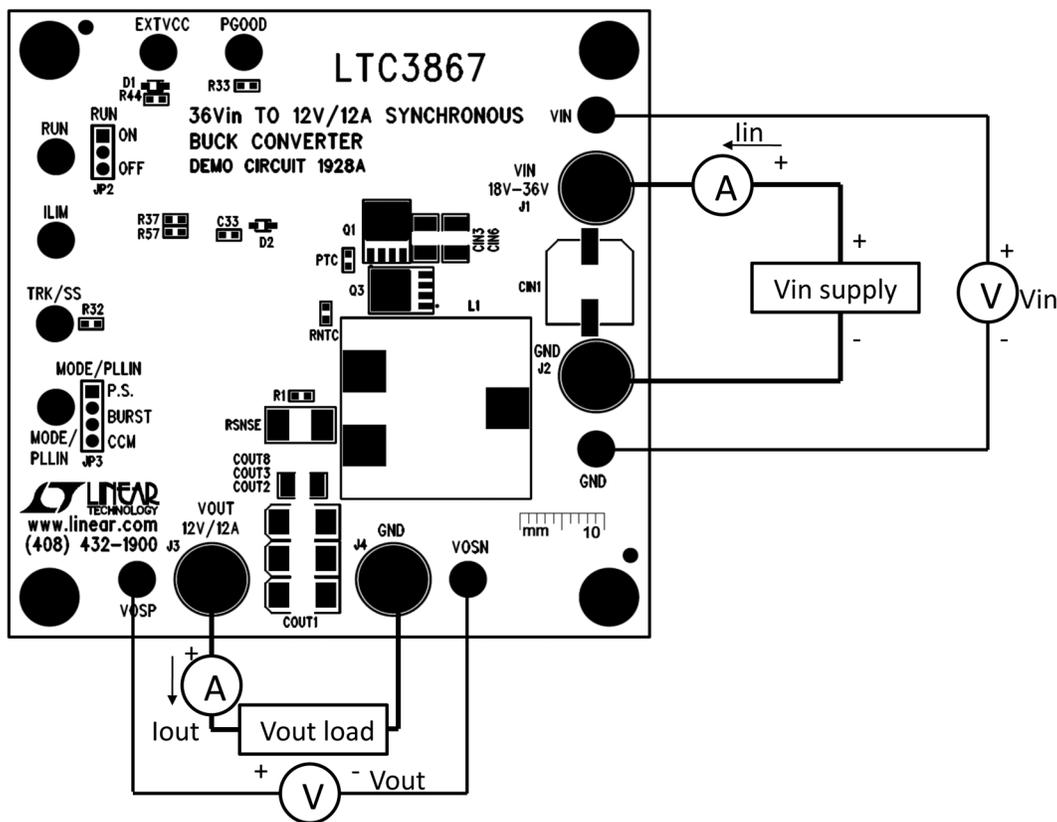

Figure 1. Test Setup of DC1928A
2. With power off, connect the input power supply, load and meters as shown in Figure 1. Preset the load to 0A and  $V_{IN}$  supply to 24V.